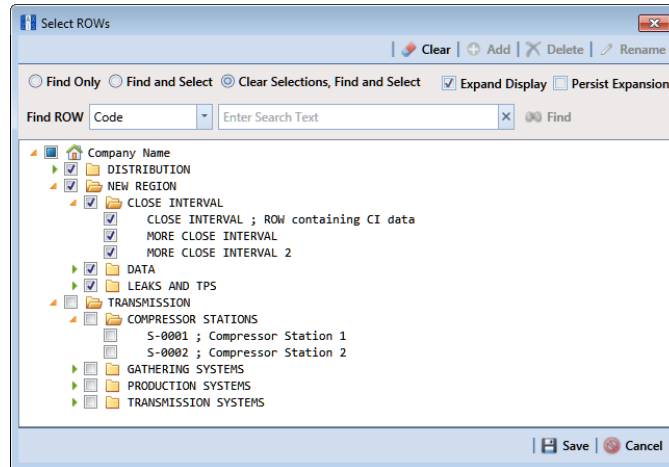

Figure 8-55. Select ROWs
- 1** Select one or more pipeline segments in the *Select ROWs* window (Figure 8-55). Click  **Save** to close the window.